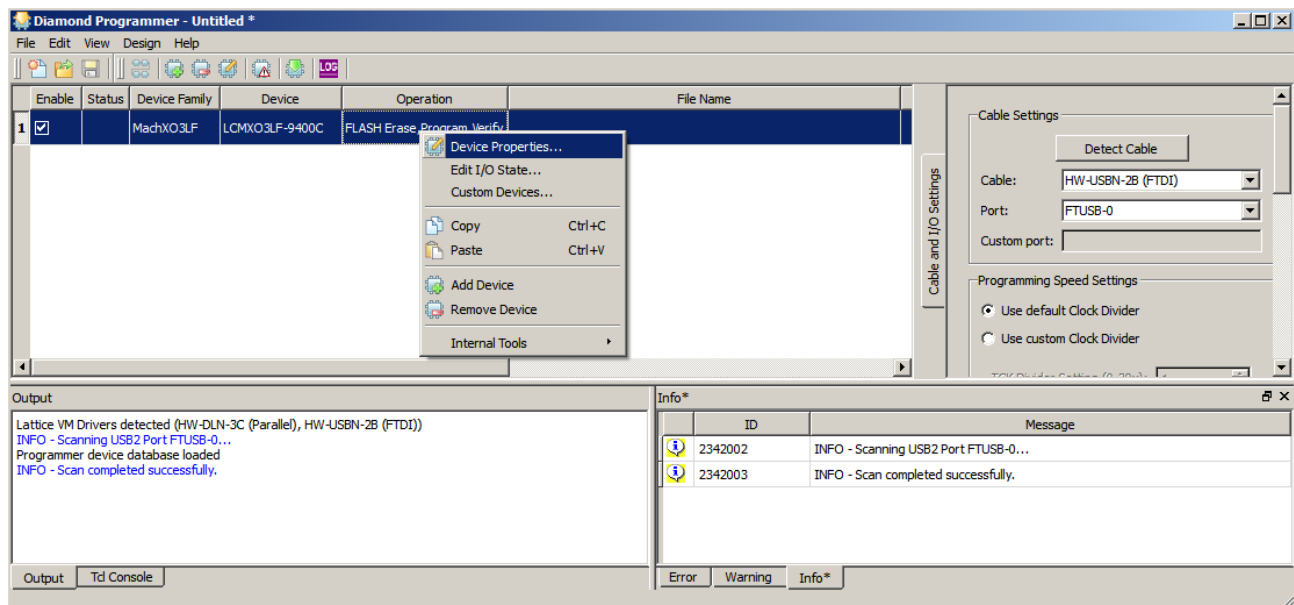
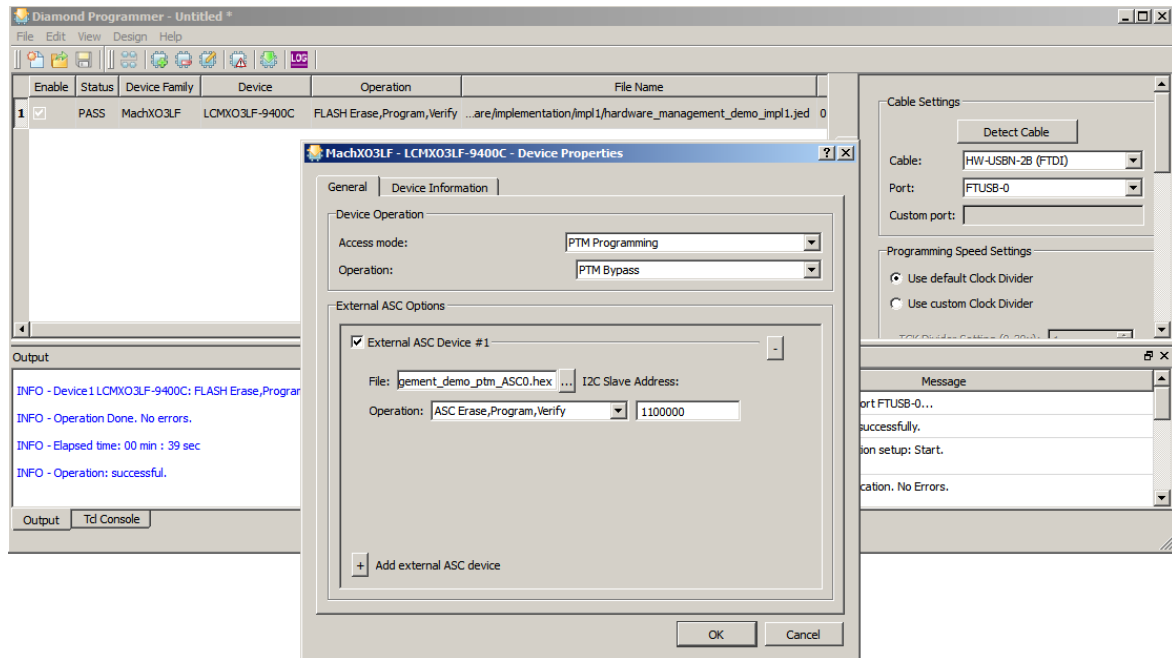
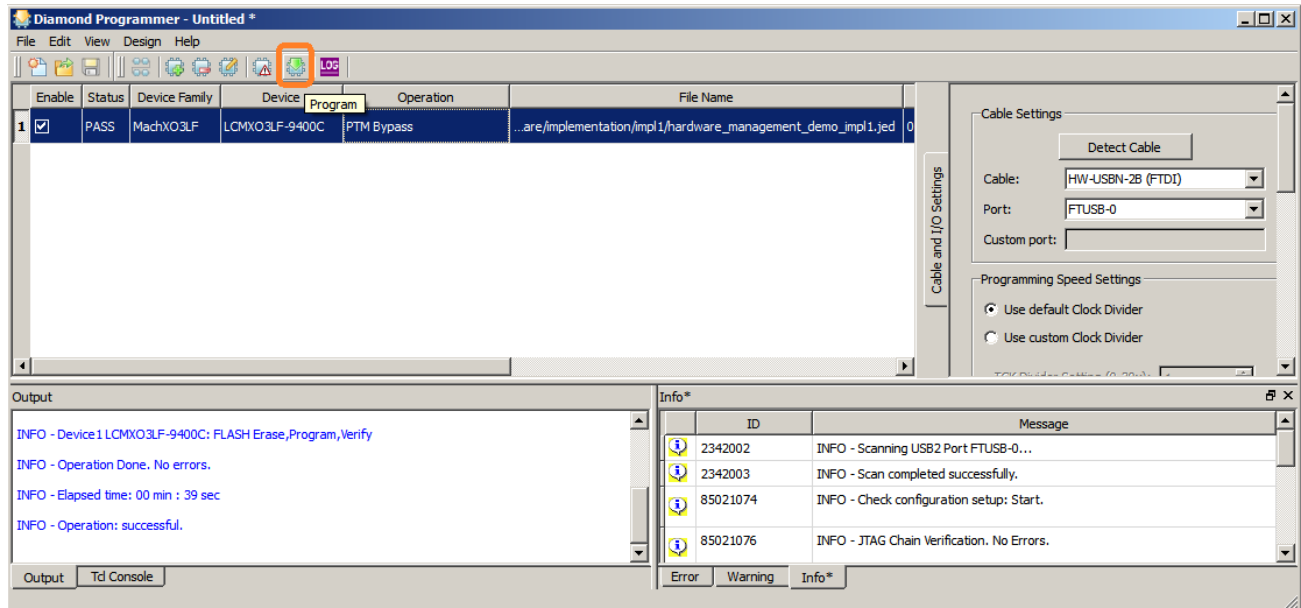

Figure 8.2. Opening Device Properties
Figure 8.3. Setting L-ASC10 Device Properties
Figure 8.4. Starting Programming Operation
5. Set device properties as shown in Figure 8.2. Open the Device Properties dialog box as shown in Figure 8.3. Under Device Operation, select **PTM Programming** in Access mode and **PTM Bypass** in Operation.
6. Click the **Program** button to start programming the L-ASC10 device as shown in Figure 8.4.
To erase the MachXO3 Flash, Open the Device Properties dialog box as shown in Figure 8.3. Under Device Operation , select **Flash Programming Mode** in Access mode and **Flash Erase Only** in Operation. Click **OK**. Then click the **Program** button as shown in Figure 8.4.